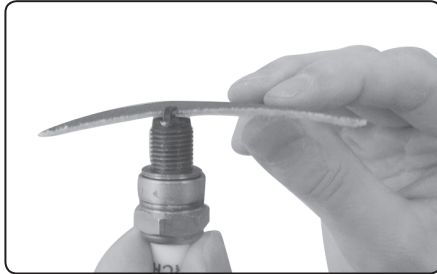

Fig. 11
- In the event that the spark plug has clogged electrodes, file them using sandpaper or steel brush if necessary, see fig. 11.